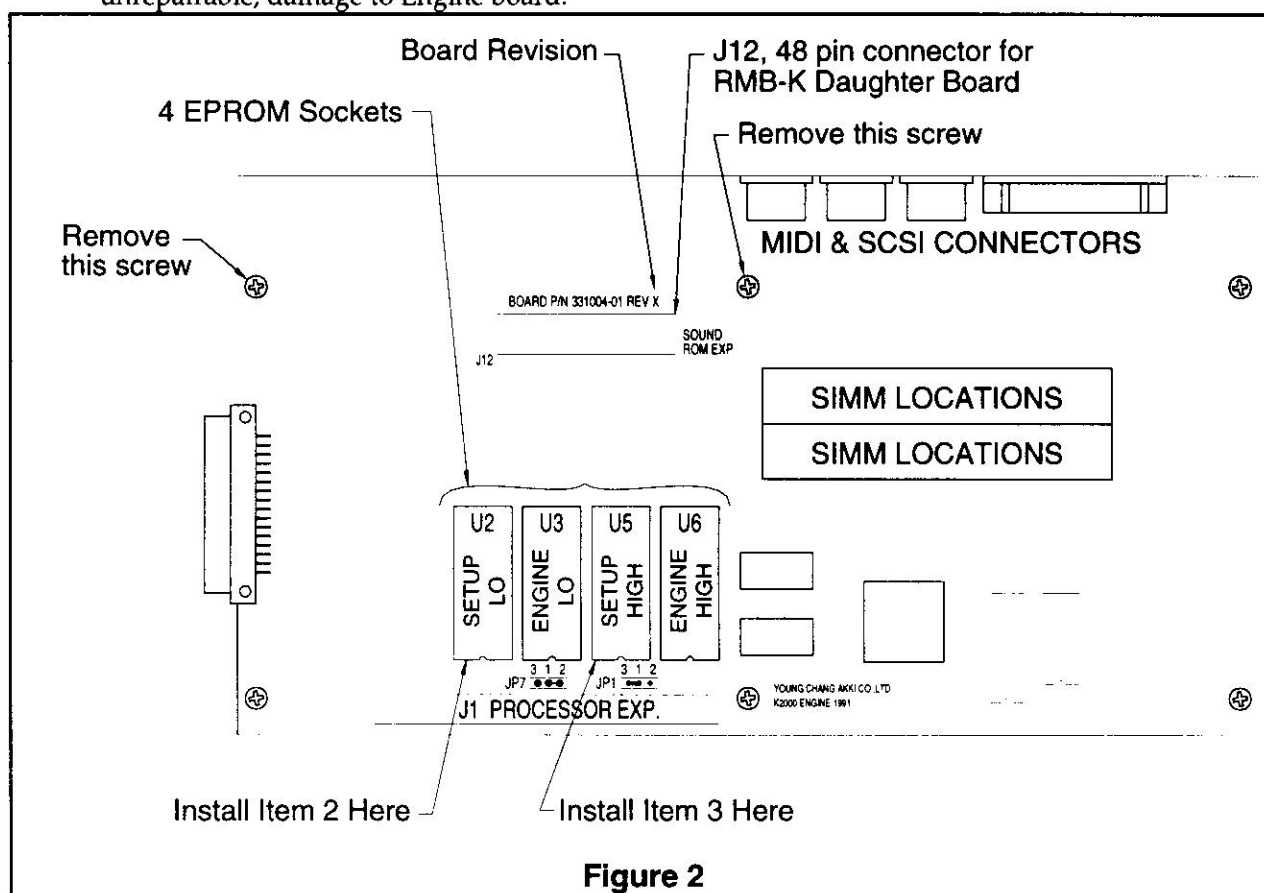

Figure 2
5. See Figure 2. Looking at the Engine PCB with the MIDI & SCSI connectors facing away from you, locate the four EPROM sockets. They are on the lower left half of the board above J1, the 64 pin connector labeled "PROCESSOR EXP.".
6. See Figure 2. Find the two setup EPROM sockets U2 & U5. The two sockets will have EPROMs already installed in them if you have Engine Software 2.x. If there are EPROMs present then use an EPROM puller to carefully remove them from their sockets.
7. See Figure 2. Take Item 2, Setup LO EPROM, and place it into the left-most socket. Be sure that the notch in the EPROM indicating pin one is facing J1. Gently push the EPROM into the socket, making sure that all pins are inserted correctly. Be careful not to bend any pins.
8. See Figure 2. Take Item 3, Setup HIGH EPROM, and place it into the second socket from the right. Be sure that the notch in the EPROM indicating pin one is facing J1. Gently push the EPROM into the socket, making sure that all pins are inserted correctly. Be careful not to bend any pins.
9. See Figure 2. Looking at the Engine PCB with the MIDI & SCSI connectors facing away from you, locate J12, the 48 pin connector labeled "SOUND ROM EXP". It is to the left of the SIMM sockets and above the software and setup EPROMS.
10. See Figure 2. Remove and save the two Engine PCB mounting screws to the left and right side of J12, the 48 pin connector labeled "SOUND ROM EXP".
15. See Figure 2. Identify what type and revision Engine Board is in the unit. The revision of the board is silk-screened above J12, the 48 pin connector labeled "SOUND ROM EXP". This connector is to the left of the SIMM sockets. On Calvin boards, the silk-screen says "BOARD P/N 331004-01 REV. X", where "X" is the revision of the board; on Janis boards, the silk-screen says "BOARD P/N 331030".
16. See Figure 2. If the type and version of the Engine Board is "Calvin C" or "Janis", locate JP7 between the four EPROM sockets and connector J1, the 64 pin connector labeled "PROCESSOR EXP.". A jumper header may be installed or there may just be 3 pads.